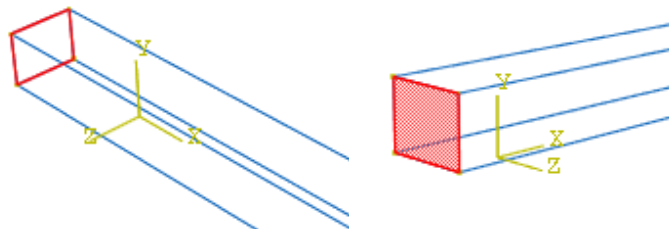

Figure W1-10 Fixed end.
3. Click the **Show/Hide Selection Options** icon  in the prompt area to open the **Options** dialog box. Deselect **Select the Entity Closest to the Screen**  in the **Options** dialog box so that you can pick the desired face, as shown in Figure W1-10.